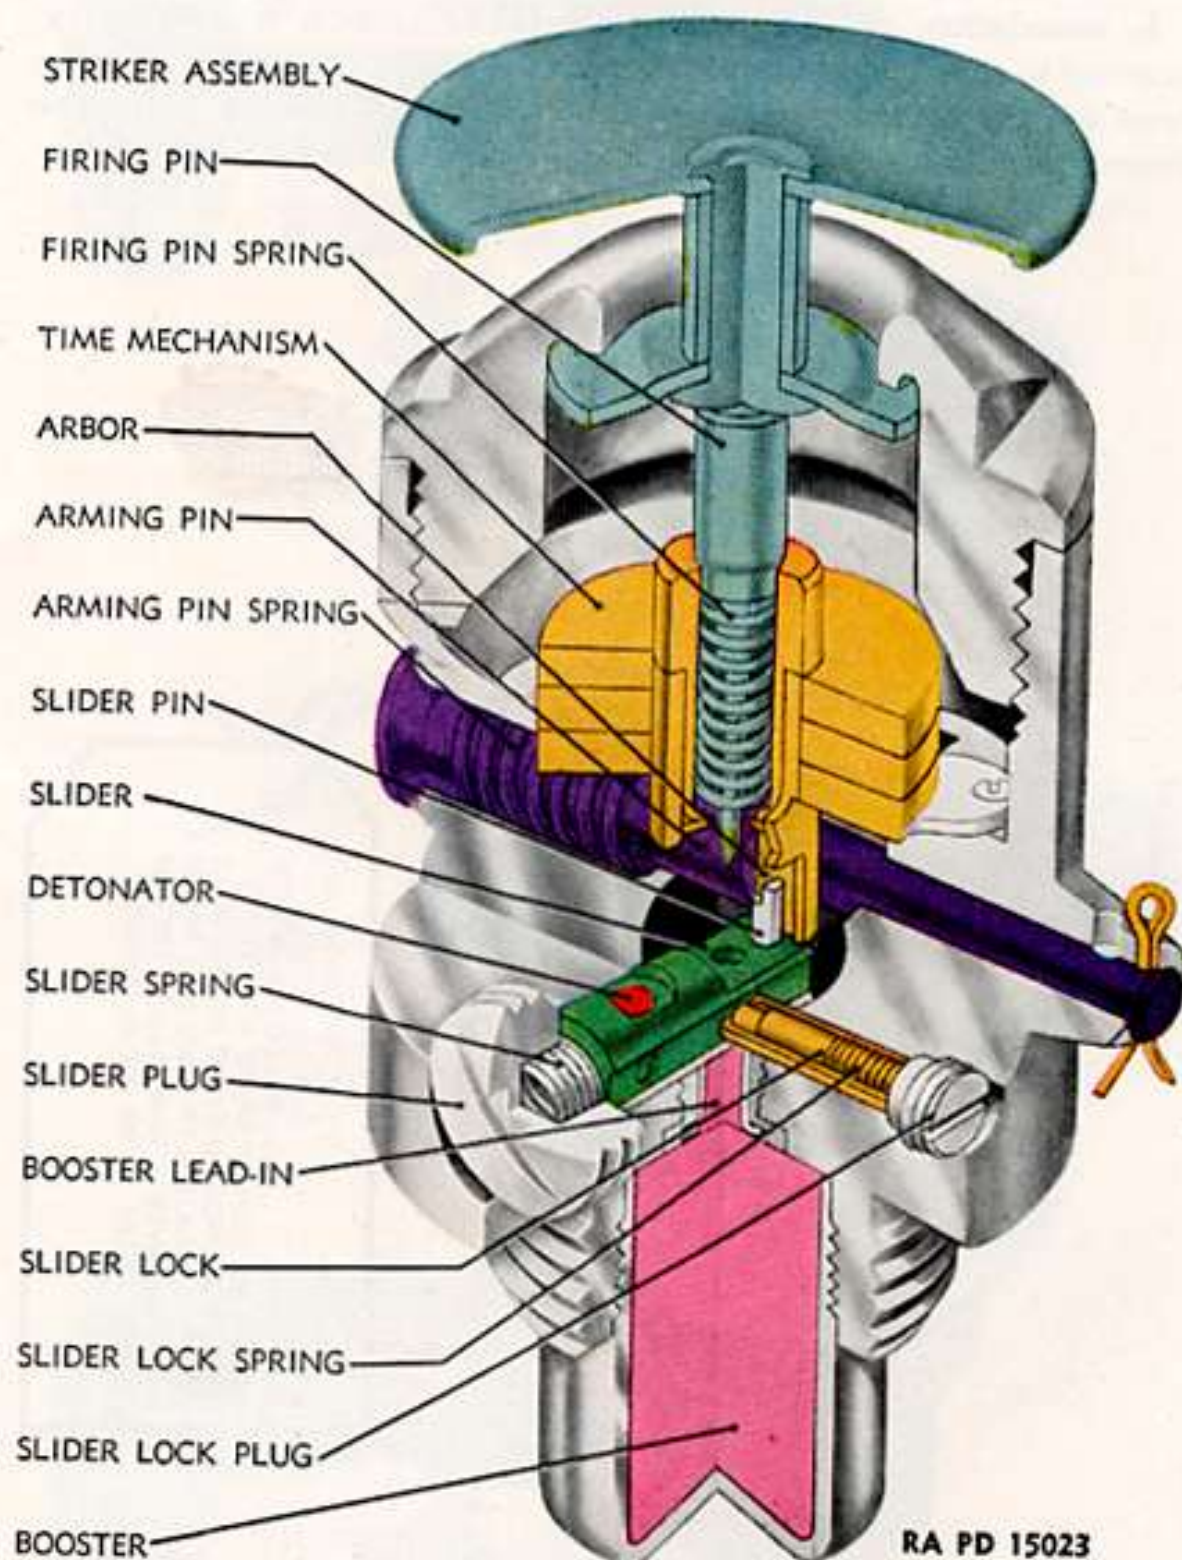

Figure 59. FUZE, bomb, AN-M120 (nose) — sectioned.
c. **Function.** The clockwork mechanism of this fuze drives a hollow cylinder which contains the firing pin and is concentric with the fuze axis. (See figs. 59 and 60.) A peg on the detonator slider bears on a cut away section of this cylinder and holds the detonator slider in the safe position. A shoulder on the arming pin also bears on the section, preventing movement of the clockwork until the arming wire is with-